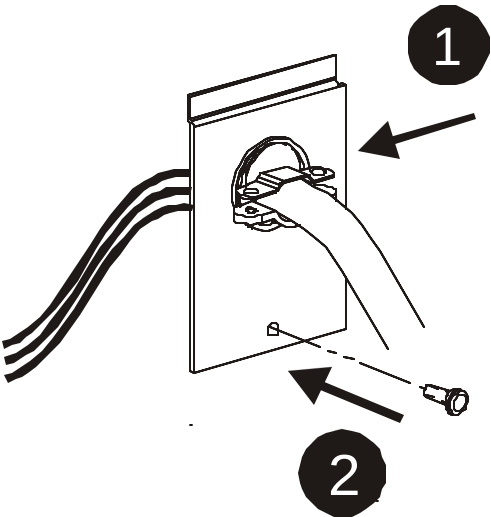

Figure 3.4 Install Conduit/Strain relief to Plate
- 1. Remove knock out from panel and install wiring, conduit and or strain relief (if flexible cable is used) as shown in figure 3.4.